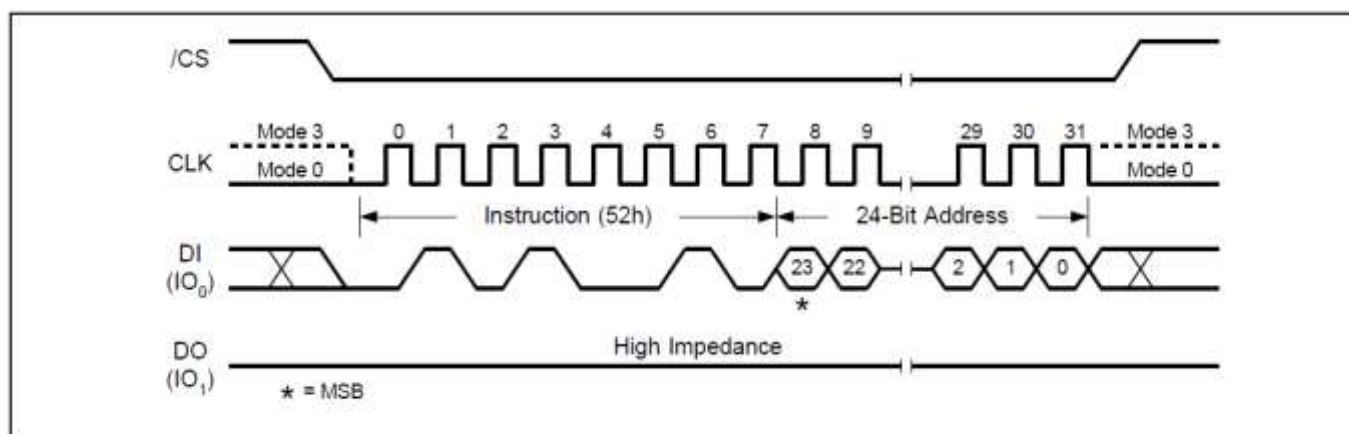

Figure17. 32KB Block Erase Sequence Diagram
The 64KB Block Erase command sequence: CS# goes low → sending 32KB Block Erase command → 3-byte address on DI → CS# goes high. The command sequence is shown in Figure 17. CS# must be driven high after the eighth bit of the last address byte has been latched in; otherwise the 64KB Block Erase (BE) command is not executed. As soon as CS# is driven high, the self-timed Block Erase cycle (whose duration is Tse) is initiated. While the Block Erase cycle is in progress, the Status Register may be read to check the value of the Write in Progress (BUSY) bit. The Write in Progress (BUSY) bit is 1 during the self-timed Block Erase cycle, and is 0 when it is completed. At some unspecified time before the cycle is completed, the Write Enable Latch (WEL) bit is reset. A 64KB Block Erase (BE) command applied to a block which is protected by the Block Protect (SEC, TB, BP2, BP1, and BP0) bits (see Table 1-2) is not executed.